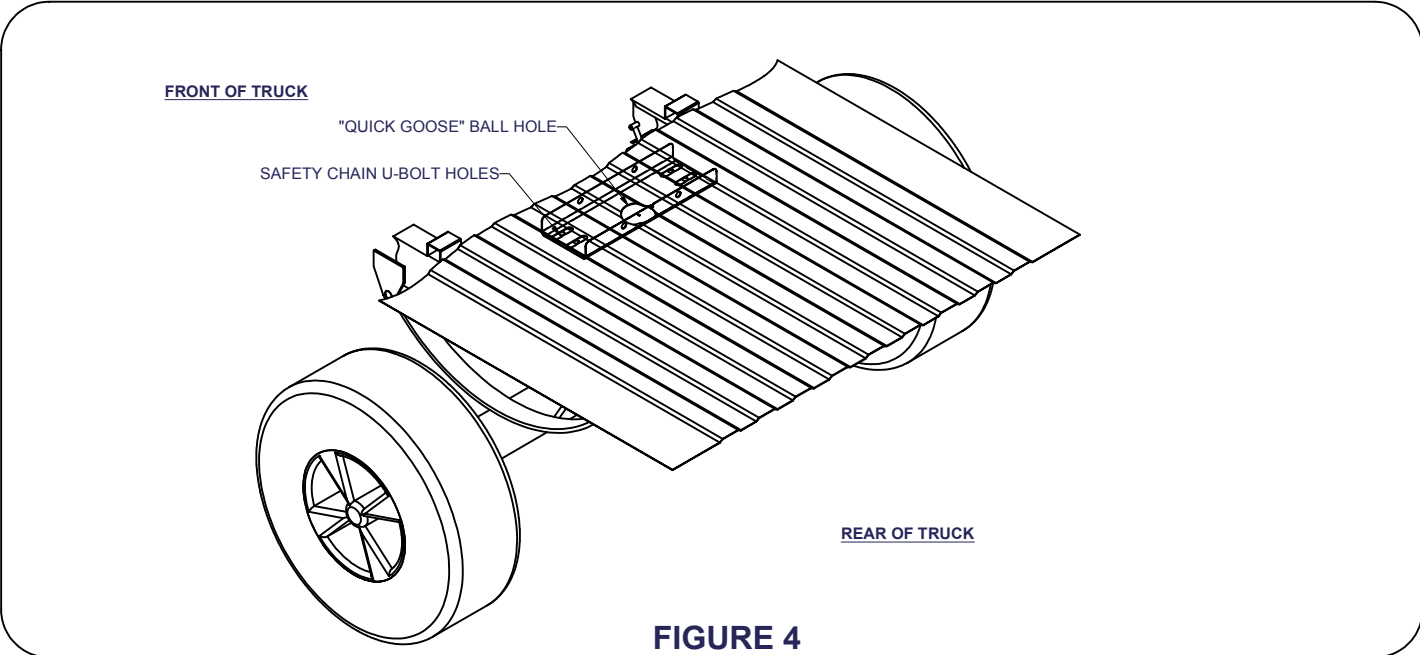
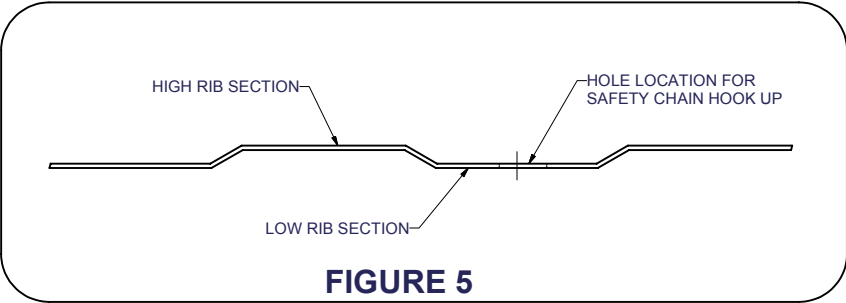

FIGURE 4
FIGURE 5
- 13) From inside the truck bed, position the drilling template as it was under the vehicle in step 11. (See **Figure 4.**) To hold template position, place a 1/4" bolt thru the template and the new hole in the bed. Use a tape measure to square the drilling template by measuring from the tail gate end of bed to the template. Using a 5/8" drill bit, drill the center of each slotted hole in template. (**Note: Be sure the holes are drilled in the lower rib sections of the truck bed as shown in Figure 5.**)